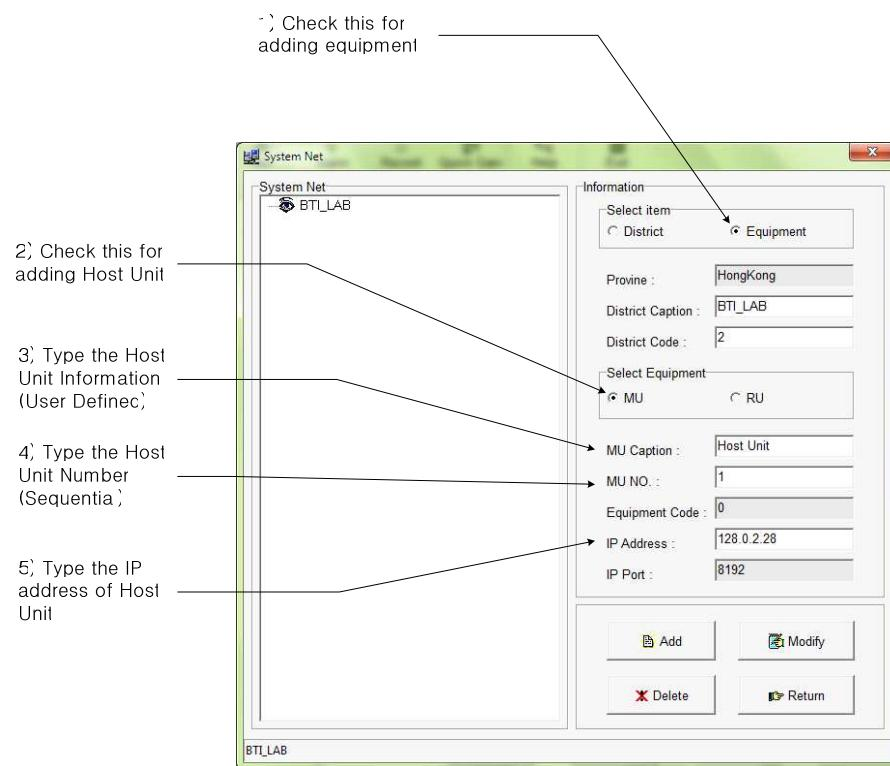

Figure 3-8. Add the Host Unit in the System configuration
6. After configuring the District, the equipment should be defined. Check the **Equipment** title and new information sections will be appeared as shown in Figure 3-8. Host Unit should be defined first before adding Remote unit. Check the **MU** title and type the information for Host Unit. After filling the information, click the **Add** button. Figure 3-9 shows the result for adding Host Unit in the system configuration.